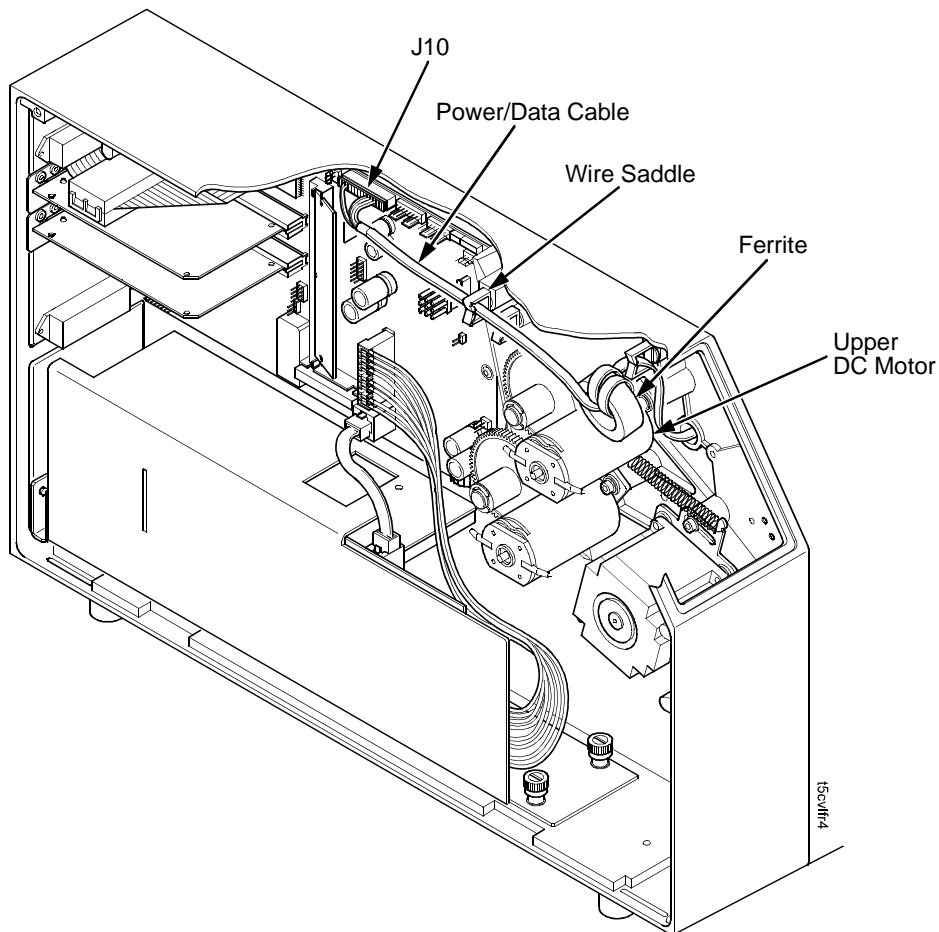

Figure 7. Position the Ferrite
12. On the electronics side of the printer, position the ferrite on top of the upper DC motor. (Figure 7.)
13. Route the power/data cable through the wire saddle as shown in Figure 7.